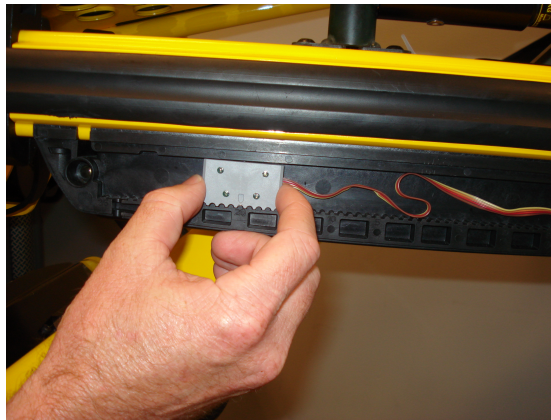

Figure 11 – Adjust left sensor height
3. Adjust the left height sensor only inside the sensor housing (Figure 11):